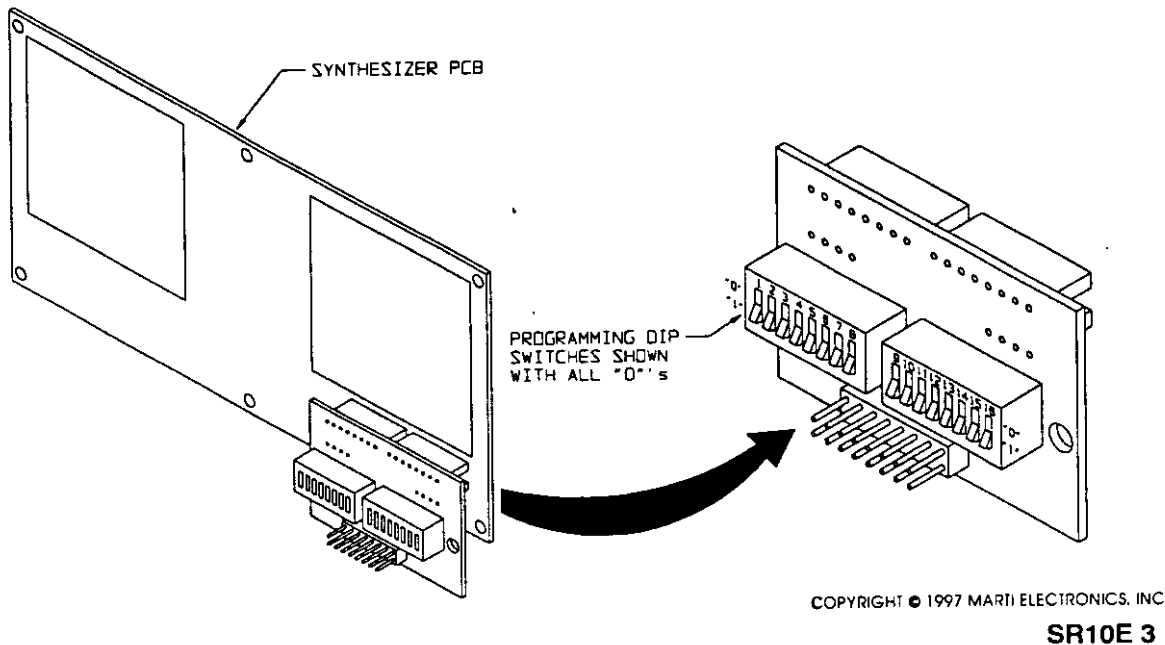

FIGURE 7. FREQUENCY SYNTHESIZER CIRCUIT BOARD
- D. Refer to Figure 7 and locate the synthesizer circuit board.
- E. Refer to Figure 7 and program the 16 DIP switch programming positions for the desired frequency. The DIP switch can be operated to the 1 or 0 position. To program a 1, the switch must be operated towards the ribbon cable. To program a 0, the switch must be operated towards the synthesizer circuit board.
8. Refer to Figure 7 and operate all the DIP switches to the 1 position. The unit will not recall the stored frequencies correctly if this is not performed.